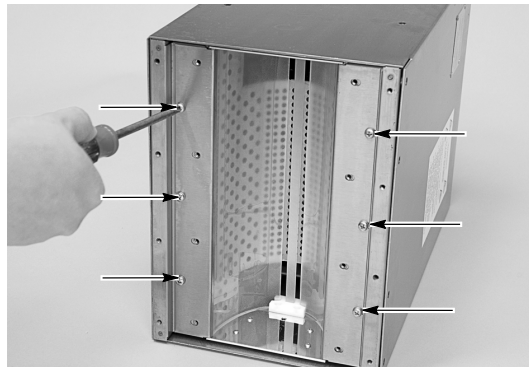

Figure 6-7 Retaining Bracket Removal
4. See Figure 6-7. Loosen the six mounting screws, then remove the two retaining brackets from the lamphead base.